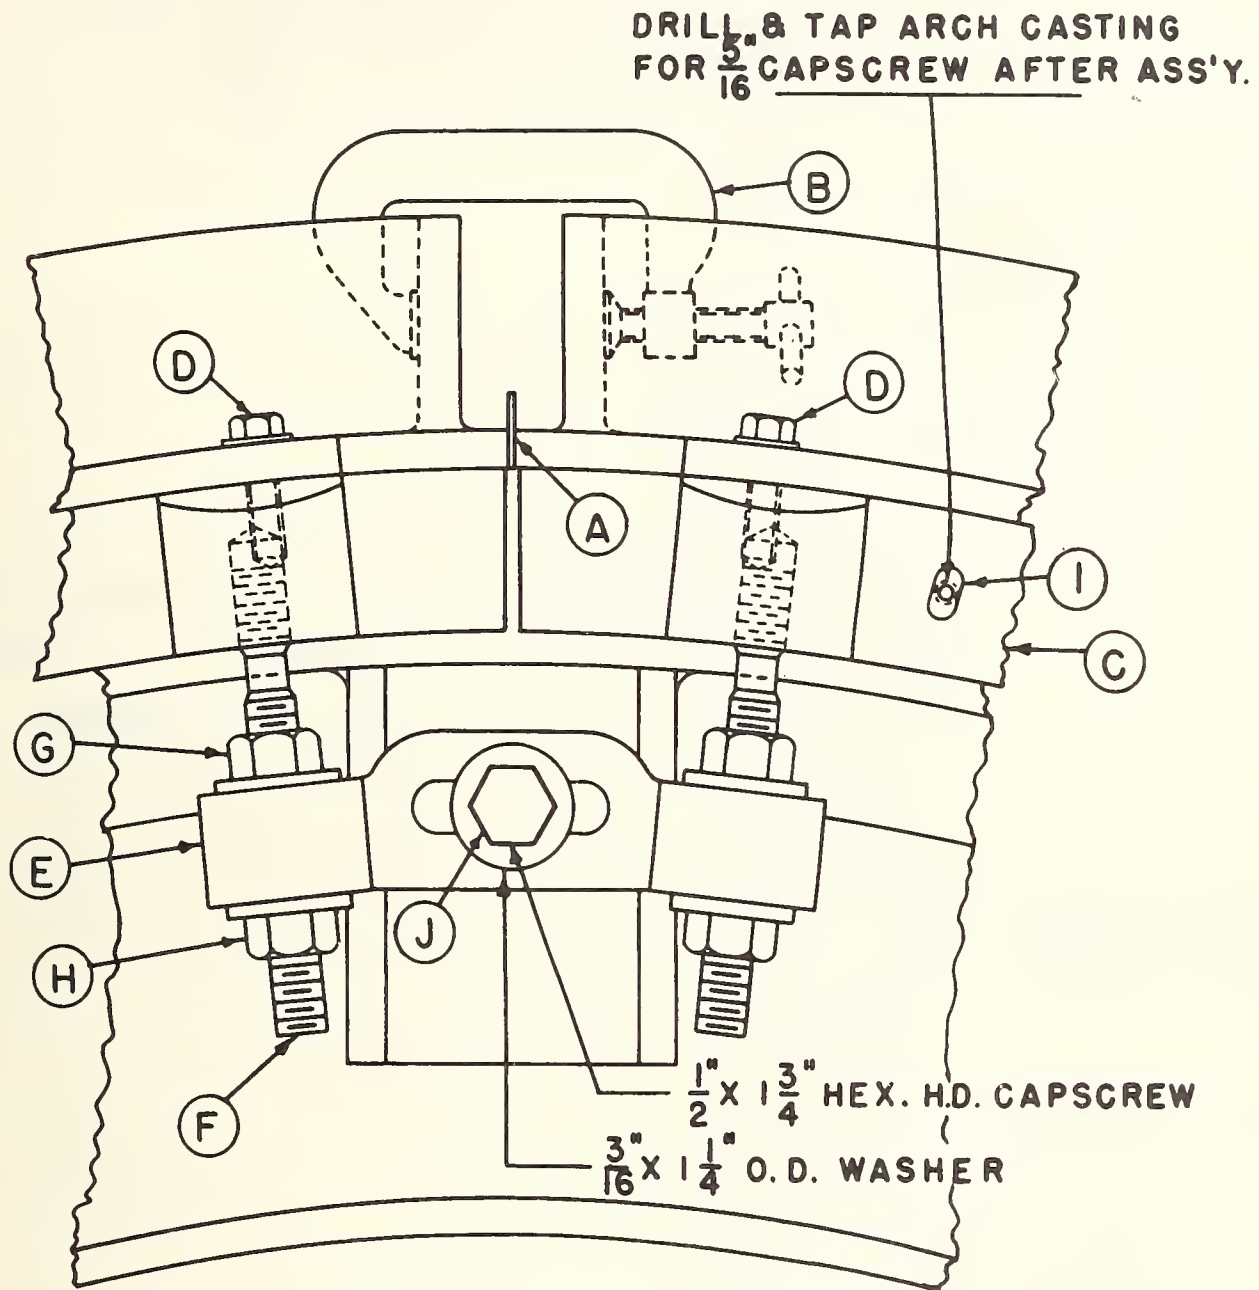

Figure 3. Top Plate mounting.
There are four top plates per card, all identical and symmetrical end for end. These plates are a specially selected aluminum alloy casting and have been machined to a very close tolerance on the surface which fits to the cylinder. This machined surface should be kept clean and free from oil, and handled carefully to avoid scratching or marring. It is preferable that the top plate assembly be mounted on the card before applying the granular material to the plates. Remove the dust shields before installing the plates. Set the first top plate on the card against the front knife plate. Set a second top plate on the card, adjacent to the first. As shown in Figure 3, insert a spacer (A) between the plates and secure the plates with a C-clamp (b). The spacer should be $1/16''$ thick if the clothing wire